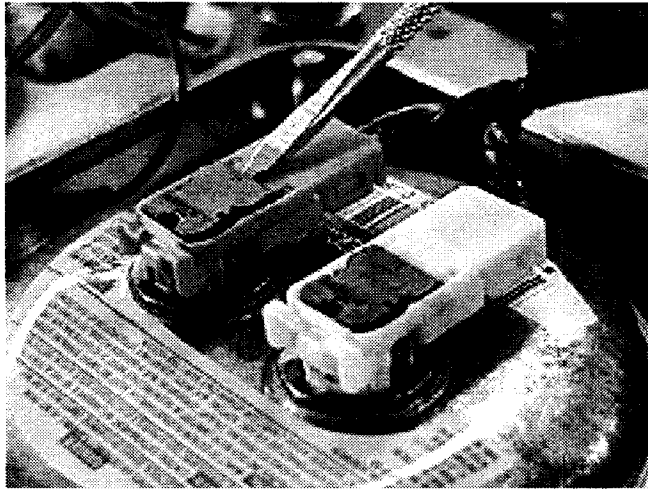

Figure 1
- B. With a small, flat screwdriver, pry the connector-locking clip to unlock the connector (see Figure 1).